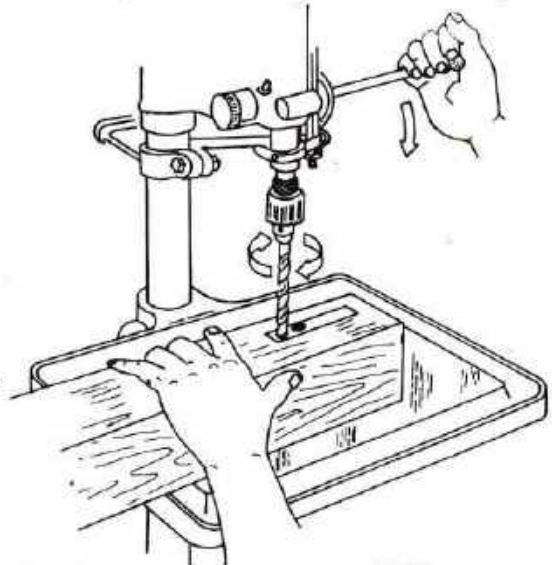

Fig. 760. BORING A SERIES OF HOLES FOR A MORTISE
5. Adjust for depth of boring Fig. 760. This is especially necessary when the hole is to be bored to a specified depth and is not to go through the board.